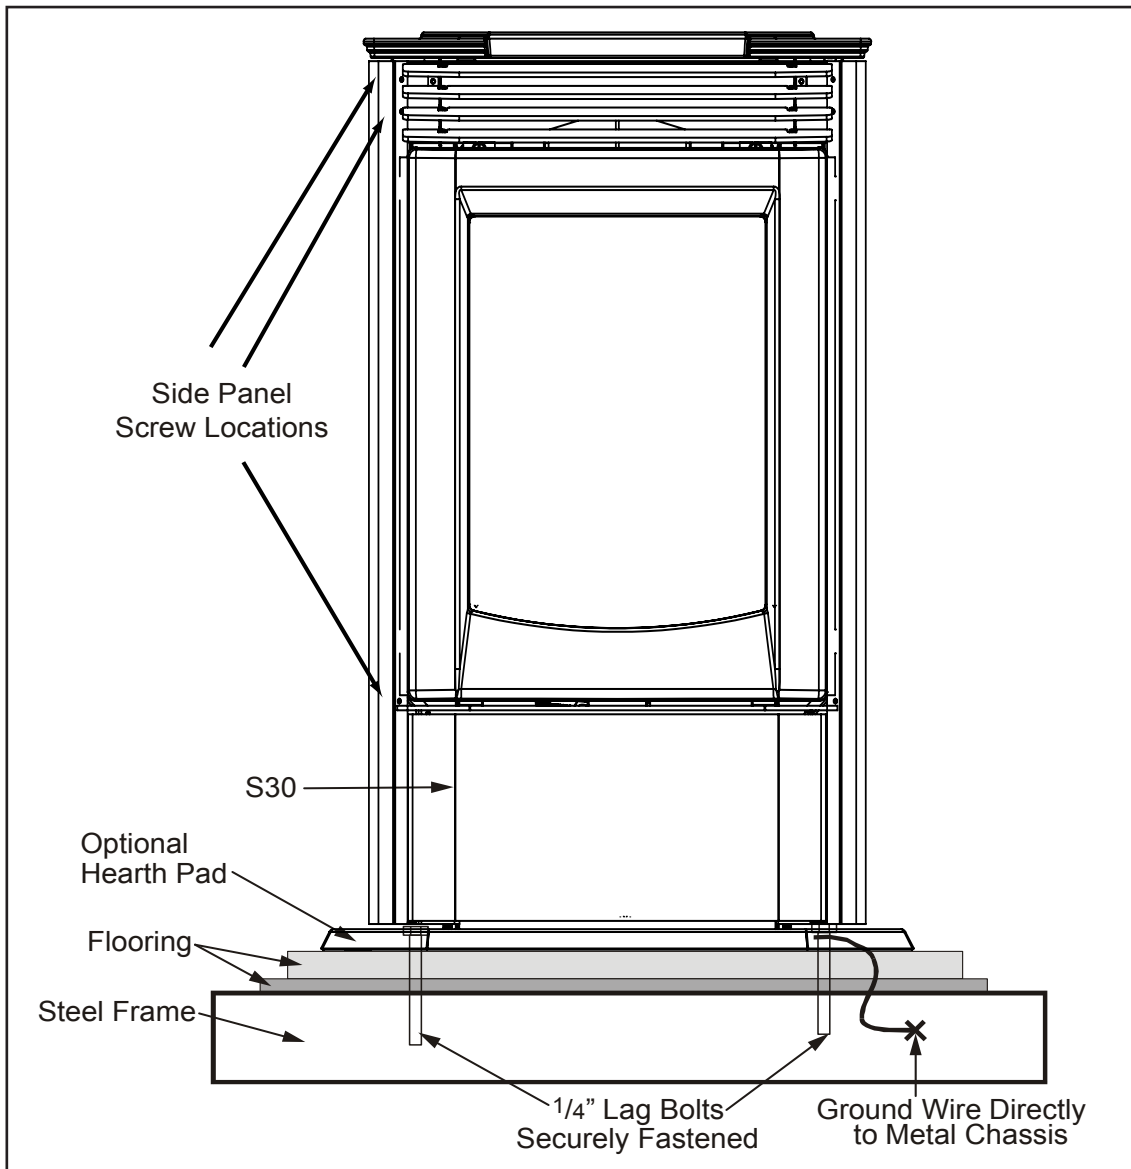

Figure 24: Correct Mobile Home Installation
- Using a T20 screwdriver remove the three front screws and three rear screws on each cabinet side panel. Remove the cabinet side panels (see Figure 24)
- Secure the S30 to the floor using the two holes (one per side) in the pedestal and hearth pad (if used) (see Figure 24).